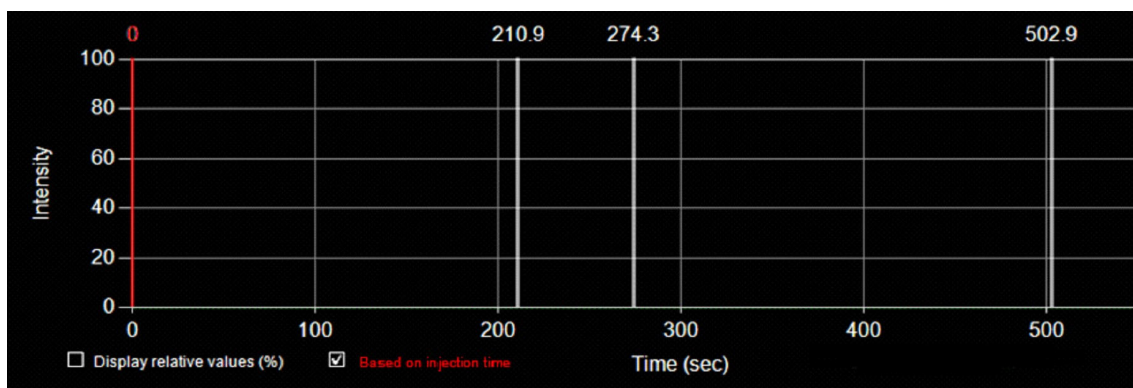

Figure 21-12 Based on Injection Time Option is Selected in this Graph
3. You can select an injection time by entering a number in the “Before peak” entry field or use your mouse to move the slider right or left in bar below that setting. (Figure 21-12)
4. Selecting **OK** after entering an injection time, the check box next to **Based on injection time** at the bottom of the graph is checked (selected). (Figure 21-12) This is highlighted in red to notify that the first phase time is edited. The phase time is rescaled based on the injection time setting.